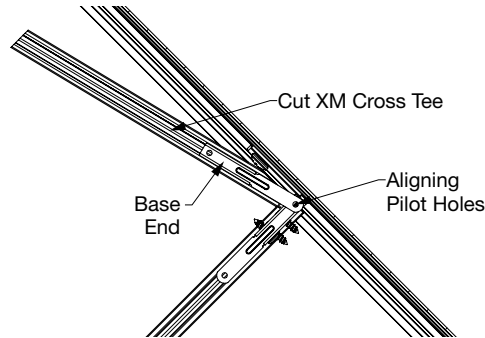

Fig 48
- Place a PAC over the bulb of the cut XM Cross Tees so that the pilot hole on the flat side aligns over the top pilot hole on the base side of the previously installed PAC (**Fig 48**)